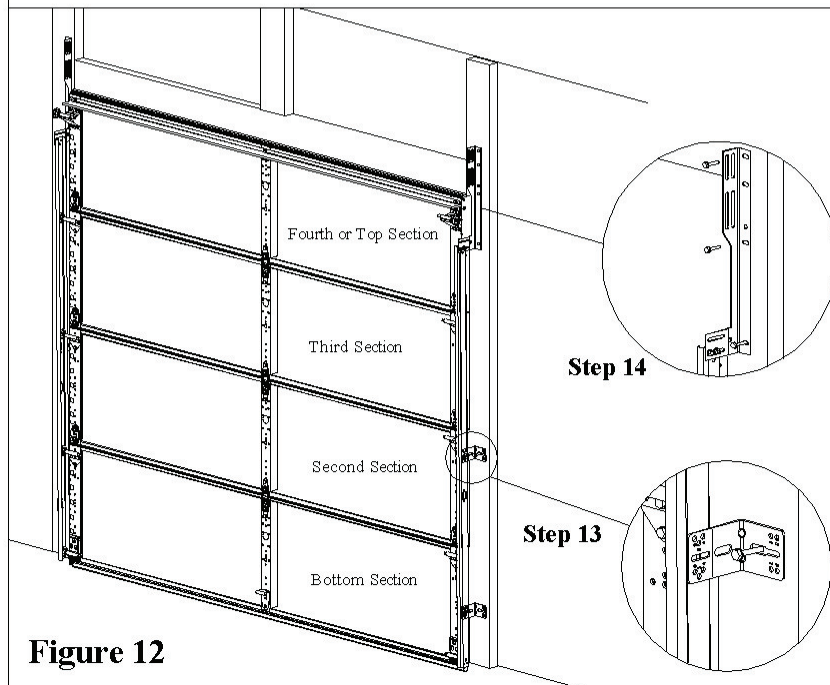

Figure 12
With track properly aligned, securely fasten jamb brackets to jamb with (1) 5/16"x1-5/8" lag bolt (Figure 12). **Note: Predrill 3/16" hole to prevent splitting of wood.**
Secure flag brackets with (3) 5/16"x1-5/8" lag bolts to jamb (Figure 12). **Note: Predrill 3/16" hole to prevent splitting of wood.**